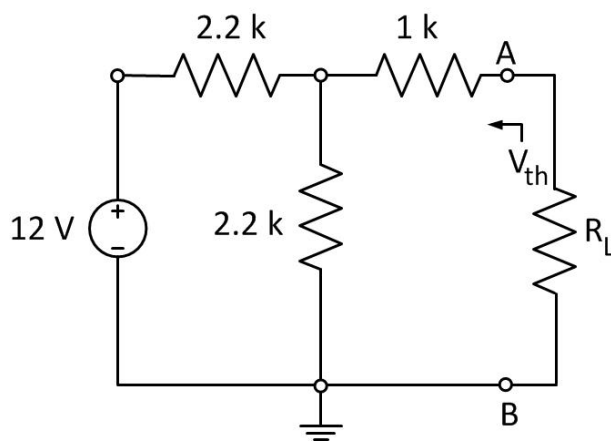

Fig. 2
Part C: For the circuit in Fig 2, find the value of R_L for which maximum power transfer would take place and also find the value of maximum power transferred.
1. Assemble the circuit as shown in Fig. 2. Find the Thevenin's equivalent as seen into terminals A-B.
1. Re-assemble the circuit as shown in Fig. 2. Now the objective is to verify the maximum power transfer theorem for the load R_L connected across terminals A-B. The power transferred to a load is product of voltage drop across it and the current flowing through it.